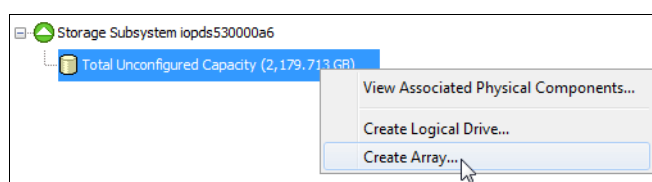

Figure 2-49 Creating the array
- Select the **Logical** tab. You need to create the array before you can create a logical drive. To create the array, *right-click* the **Total Unconfigured Capacity**, and click **Create Array**, as shown in Figure 2-49.